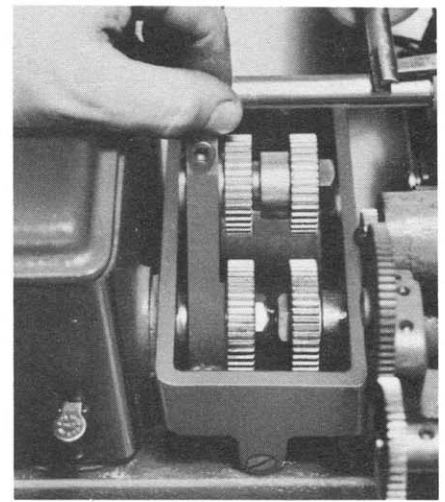

Fig. 3
2. Partly withdraw the worm shaft which can be reached at the left hand side of the cam case (not shown). Replace gears (B) with new change gears; tighten nuts (A).
3. Retract screw (C) and loosen gear stud (D) this allows you to:
- (a) raise the change gear arm as shown in fig. 3. Notice that the traverse bar doesn't have to be removed even for the largest gears.
- (b) replace gears (E), lower the change gear arm into the case and tighten screw (C).
4. Mesh gears and tighten stud (D).